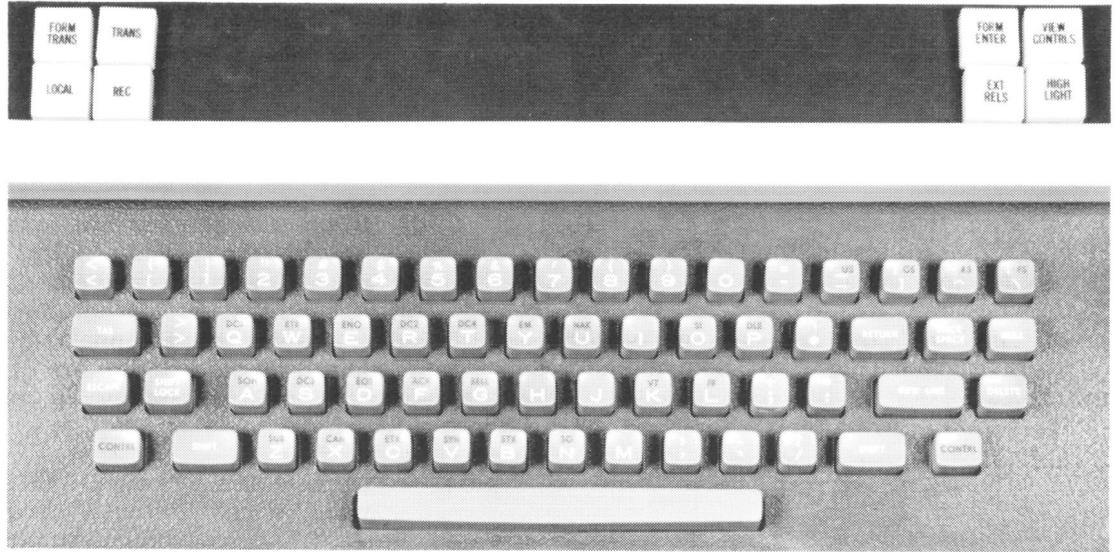

Figure 4 - Keyboard and Operating Controls
4.01 The location of the various attendant controls, buttons, and keys referred to in the following procedures, can be found in Figures 4, 5, and 7 unless specifically stated otherwise.
4.08 Perform all of the keyboard functions, see Figure 4 for all characters, symbols, and control characters to be displayed. Make sure that the correct character or symbol is displayed. An abbreviation list and symbols are shown as displayed on the screen within the parentheses in the ASCII chart in Section 578-101-100.
4.11 Depress the VIEW CONTRLS (View Controls) button (Figure 4). If the button was illuminated, it should go out and all control characters generated by the keyboard and shown on the display should be removed. If the button was not illuminated, it should light up and all control characters generated by the keyboard should be displayed. If the Display Control Characters option listed in Table A is enabled, control characters will always be displayed regardless of the on-off condition of the view controls switch.
4.12 Check that the following editing functions are performed correctly by the keyboard (Figure 4).